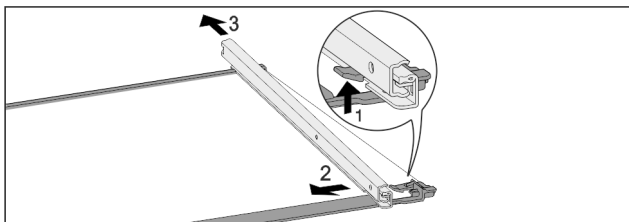

Fig. 120 Glass shelf with rails
- ▶ Push up front click-in hooks. *Fig. 120 (1)*
- ▶ Move the pull-out rails to the side *Fig. 120 (2)* and to the rear *Fig. 120 (3)*.